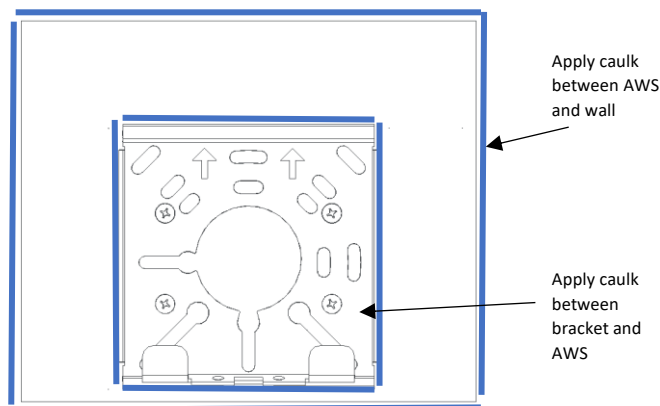

Figure 18
4. Apply caulk at two locations; between the wall and AWS; between the mounting bracket and AWS. (Figure 18)